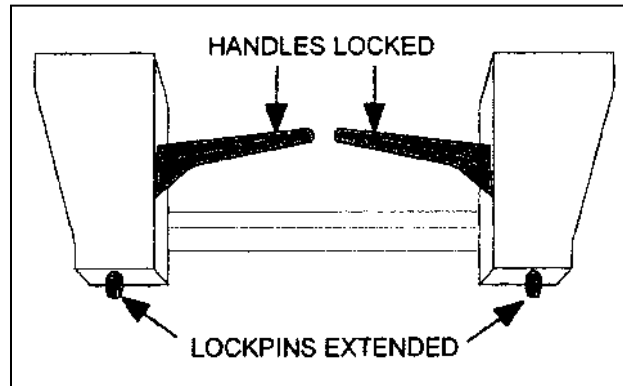

Figure 2. Attachment Coupler Handles – Locked
8. Engage the latching mechanism to secure attachment to loader. The lockpins must be completely extended and secured into the retaining slots provided on, the attachment. Figure 2.